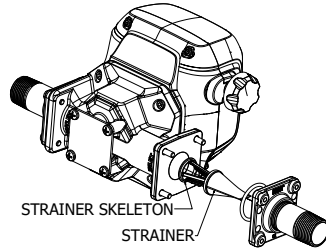

figure 5
1. Remove the socket screws at the inlet fitting. Remove the fitting, O-ring and strainer. (see *Figure 5*)